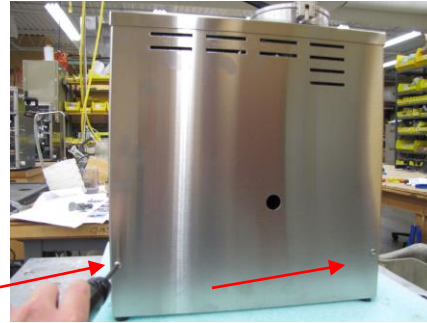

Figure 1
1. Before beginning with modification, turn power off to your ANKOM A200/200I Fiber Analyzer Machine. Disconnect power cord. Remove SS back panel. Use #2 Phillips Screwdriver as shown in Figure 1. Back panel tucks up under top edge. Slide back panel down after screws have been removed.